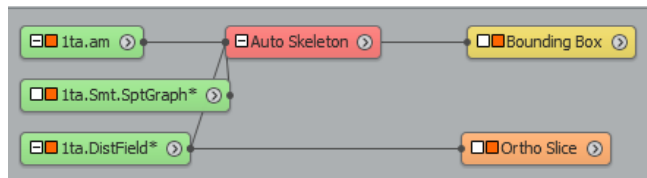

Figure 5.46: Visualization of the Distance Map and the Associated Project View
5. Attach an *Ortho Slice* to the data object *Ita.DistField*. The result may look like Figure 5.46.